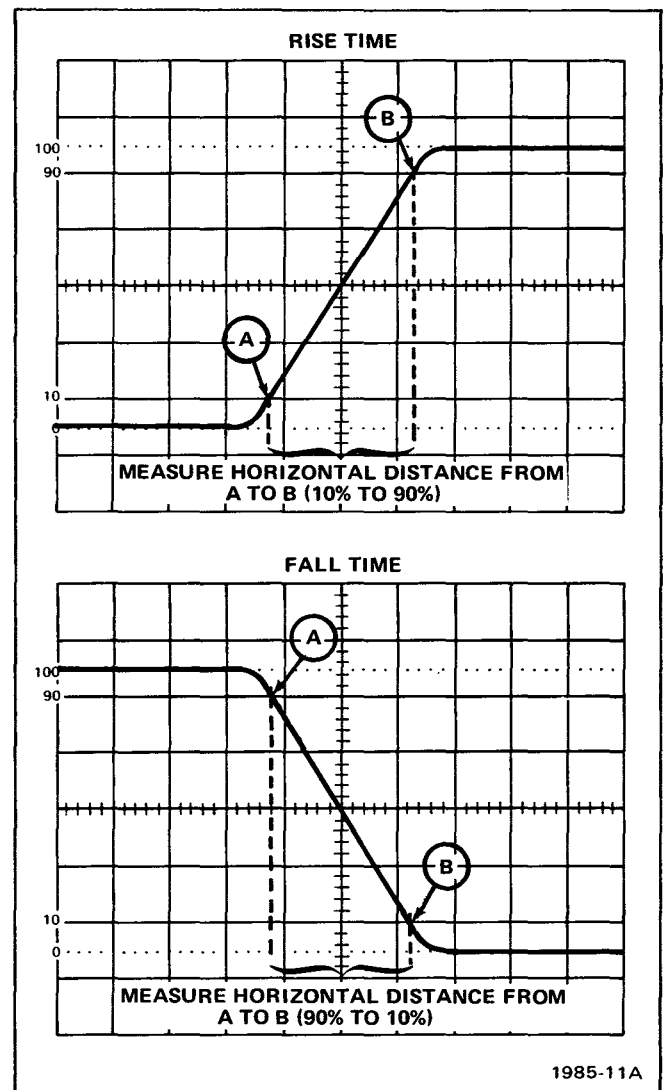

Fig. 1-7. Measuring the rise time and fall time of a displayed waveform.
6. Set the TIME/DIV switch and POSITION control to display the rising or falling portion of the waveform within the center 8 graticule divisions as shown in Figure 1-7 (see General Operating Information in this section for discussion of timing measurement accuracy).
or falling portion of the waveform that is 10% and the point that is 90% of the total display amplitude (see Figure 1-7).
Example: Assume that the horizontal distance from the 10 to 90% points is 2.5 divisions and the TIME/DIV switch setting is .1 μ s (see Figure 1-7).